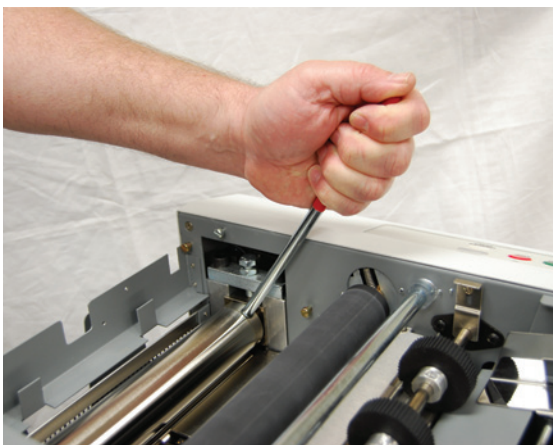

Figure 8
1. If a jam occurs in between the metal sealing rollers, remove any remaining forms from the hopper. Remove the top cover and the upper fold plate. Remove the jam-clearing tool (located under top fold plate), apply the tool to the upper metal roller (Figure 8) and turn clockwise (**Caution:** Do not apply excessive force or rollers may be damaged) until the paper jam is clear. Remove the jammed form and return tool in holder and reinstall the upper fold plate. Reinstall cover and press the start button.